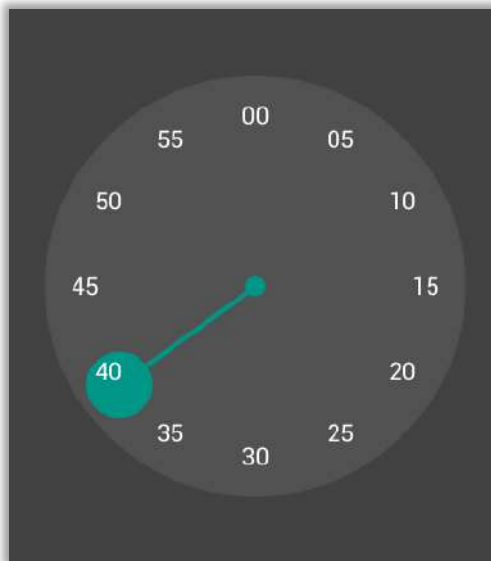

Fig. 64 : Minute Window
- II After setting the hour, the minutes are set. The minute is adjusted by dragging the green circle on the analogue clock in Figure 64.